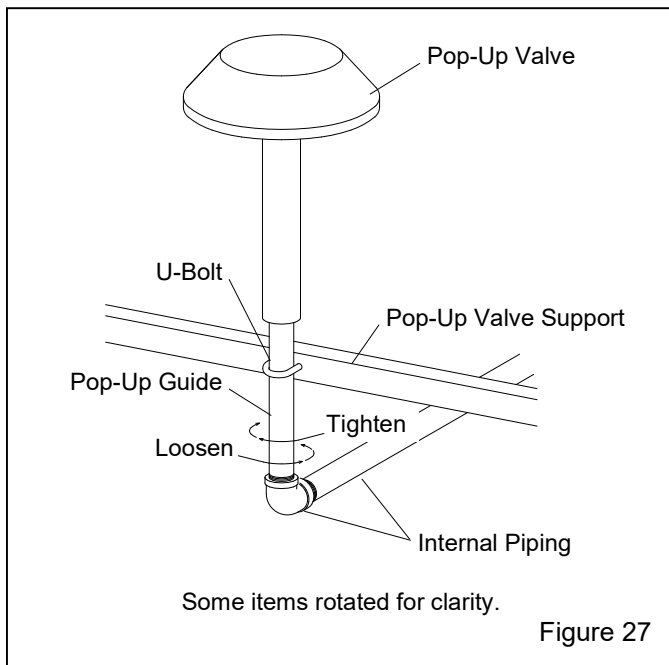

Figure 27
7.4 Replace the Pop-up Valve – Figure 27
7.4.3 Refer to Figure 27 and loosen the U-bolt enough to turn the pop-up guide.